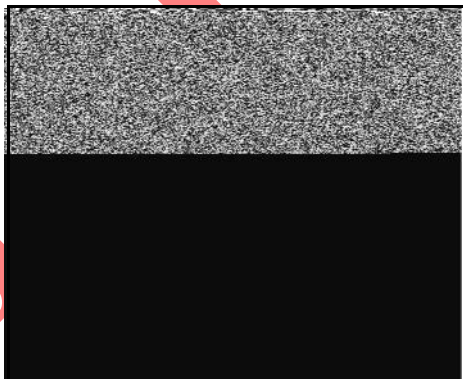

Figure 9
3. Remove screws and blower housing (Figure 9).